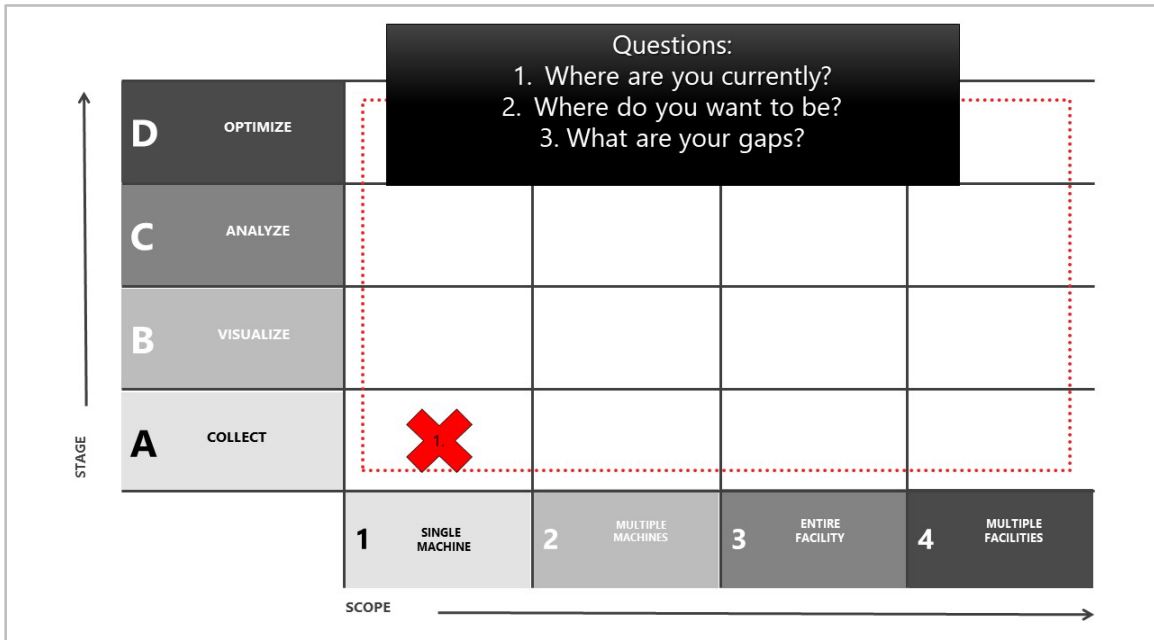

Figure 4. Question 1: Where are you currently (in your digital transformation)?
1. **Where are you currently (in your digital transformation)?** We ask this question because we want to know if the customer has started along their digital transformation path and is currently using some type of digital solution. For example, a customer might say, “We have a test pilot on one machine. We’re doing some data collection, but we don’t know what we want to do with the data.” Using the SMKL matrix, we place an “X” at the intersection of one machine and data collection to indicate the company’s current position at the beginning of its digital transformation. (See Figure 4).